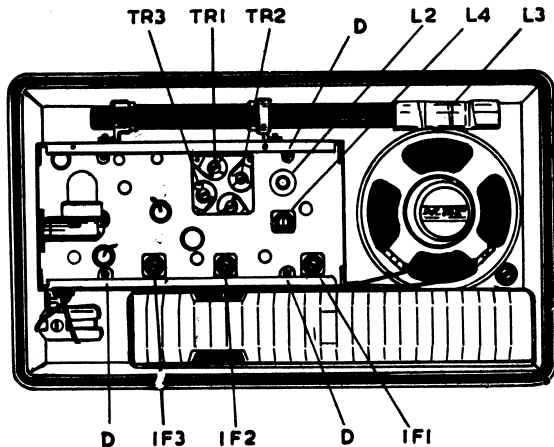

FIG. 2.
4. Remove three screws marked "D" in Fig. 2.